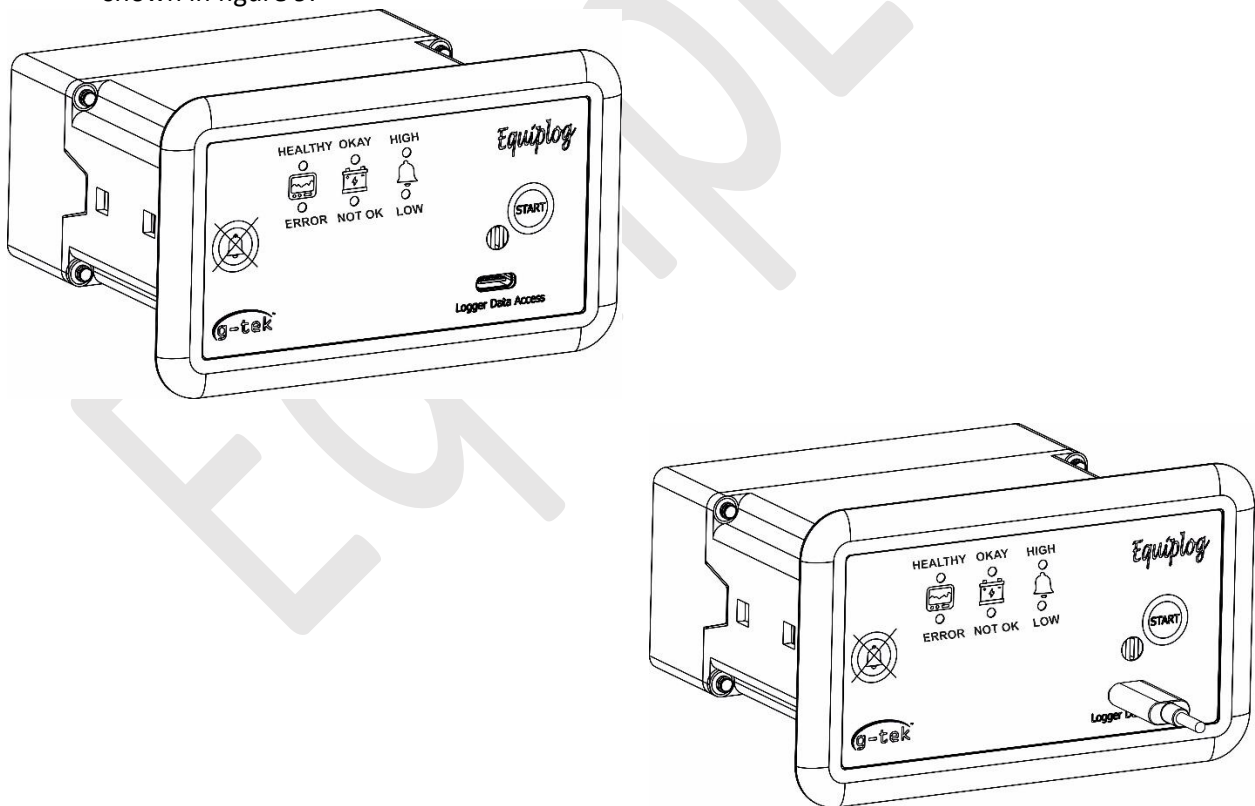

Figure 9 Inserting the USB Cover in the Data logger
- When USB port is not in use for data download, it should be covered by USB gasket cover as shown in figure 9.